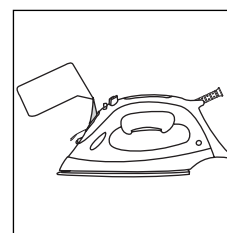

fig. 2
- Open the cover of the water tank opening and pour the water into the iron (fig. 2) keeping the iron in a horizontal position. It is important that the iron is always unplugged from the mains every time you fill or top up the water in the tank.